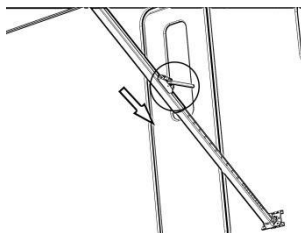

Figure D14
2.2 Pull the lift lock located at the bottom of the support rods on both sides, and press down the lock head to retract the support rod. (Figure D14)